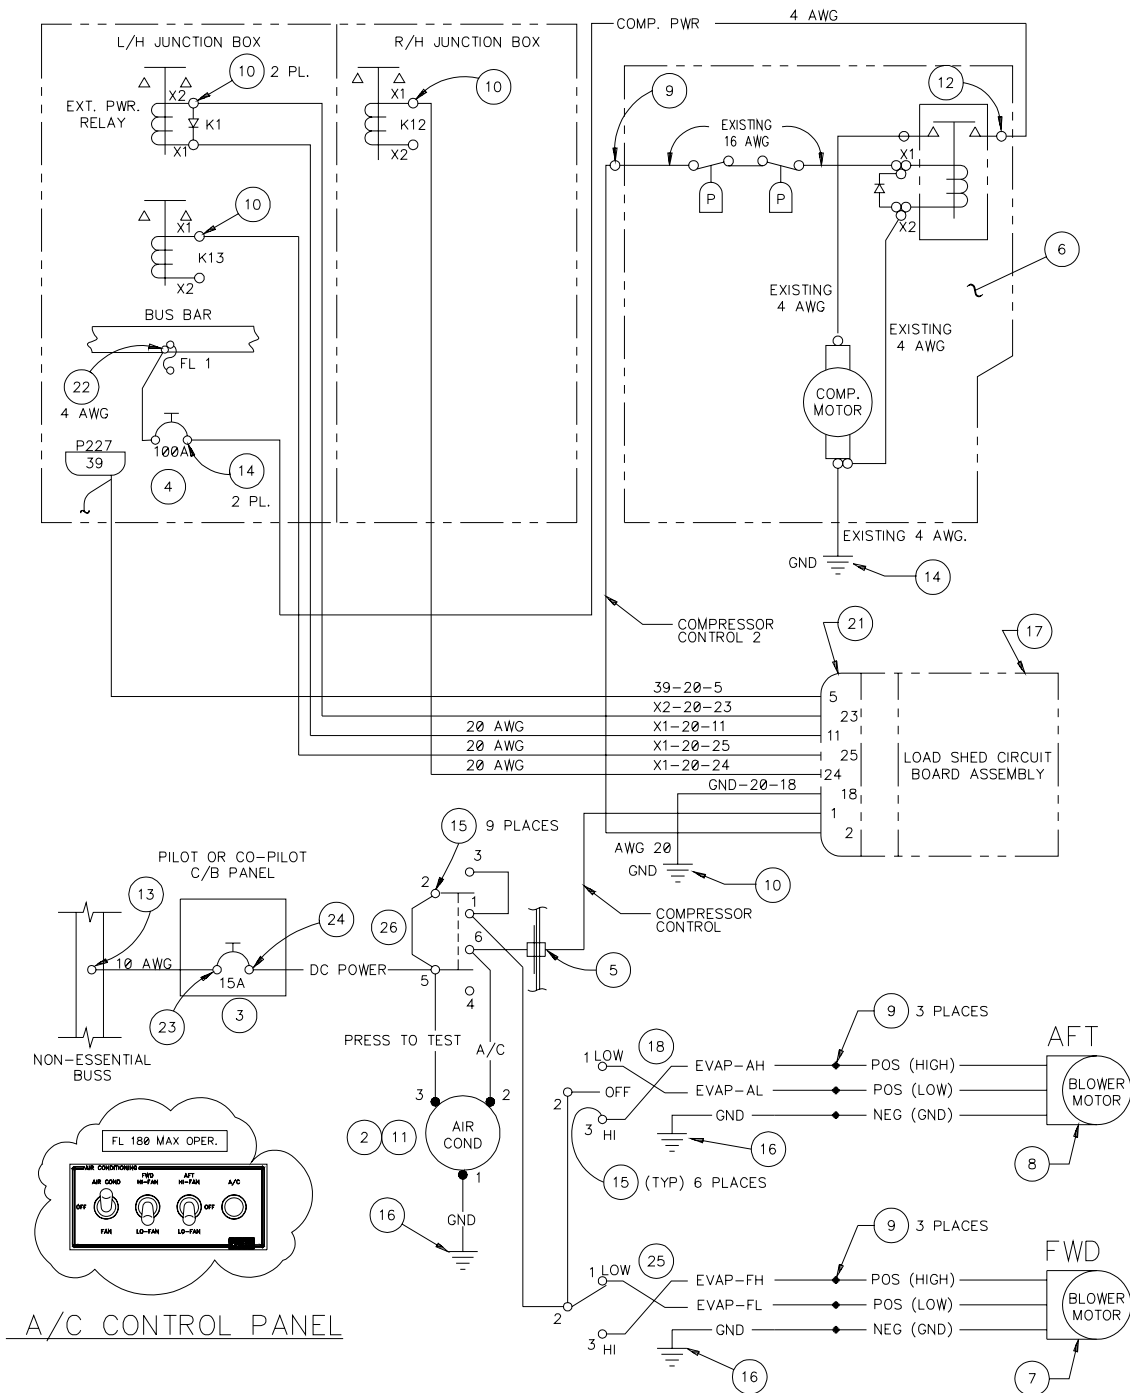

Figure 1. Electrical System
3. Check if power and ground present at fan wire splices and GND terminal strip. If power and ground are present, blower motor (Ref. 21-50-05 IPL Fig.1, item 15) has failed.
3. Check if power is present at wire EVAP-AL (at splice). If power is present, the low speed resistor (Ref. 21-50-05 IPL Fig. 1, item 9) has failed.
IPL FIGURE 1